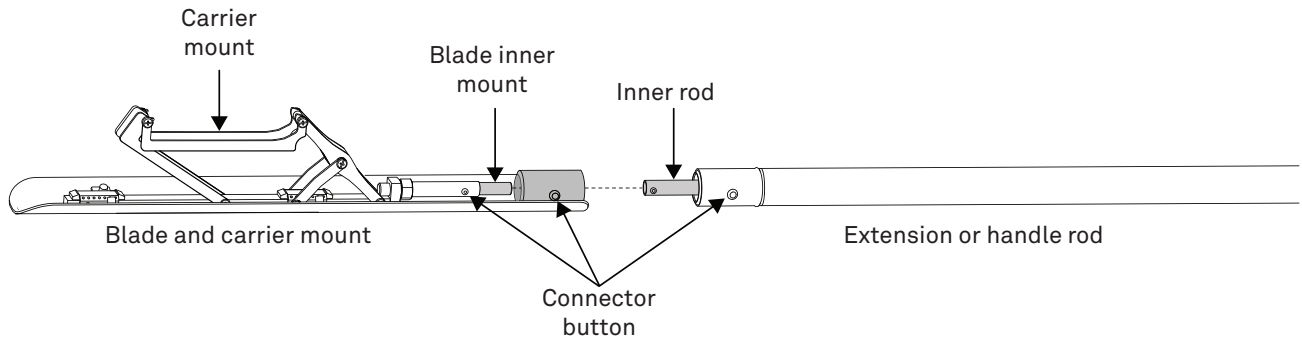

Figure 7 Connecting blade to handle or extension rod
4. Slightly extend the sensor carrier mount by moving the handle lever to the installed position to make connecting the handle rod and blade easier (Figure 7).